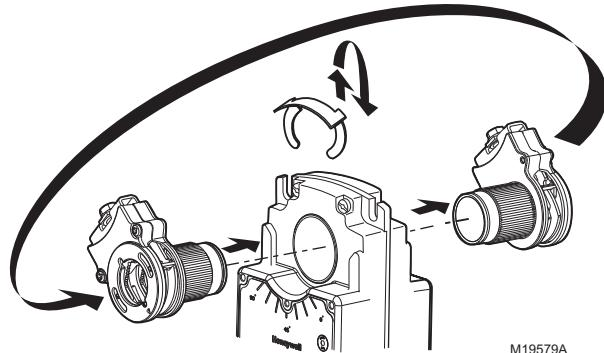

Fig. 23. Mounting shaft coupling to actuator opposite side.
- (1) Reposition reverse/direct acting switch, or
- (2) Remount actuator on the bracket.
- d. Move the actuator coupling to the opposite side of the actuator, as displayed in Fig. 23.
- (1) Remove the retainer clip from the shaft coupling and set it aside for later use.
- (2) Remove shaft coupling from one side of the actuator.
- (3) Replace the shaft coupling on the opposite side of the actuator, aligning it based on the stroke labelling.
- (4) Replace the retainer clip on the shaft coupling using the groove of the coupling.